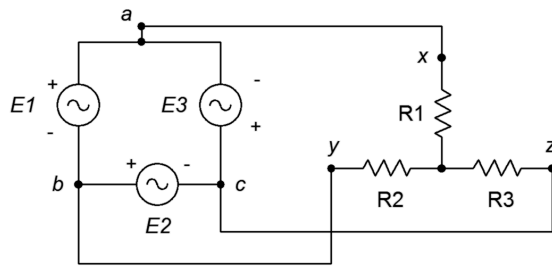

Figure 9.3
5. As depicted in Figure 9.3, a 3-phase Δ connected generator feeds a Y connected load. The generator phase voltage is 120 volts and the load consists of balanced legs of $5\ \Omega$ each. Find the voltage across each load leg, the line current, the line voltage, the generator phase current and the total load power.
6. Referring to Figure 9.3, if the generator phase voltage is 400 volts and the load is balanced with each leg at $10\ \Omega$, determine the line voltage, line current, generator phase current, load current and the voltage across each load leg.
8. Referring to the wye-delta system of Figure 9.3, if the generator phase voltage is 120 volts and the load is balanced with each leg at $20\ \Omega$, determine the line voltage, line current, generator phase current, load current, the voltage across each load leg and the total load power.